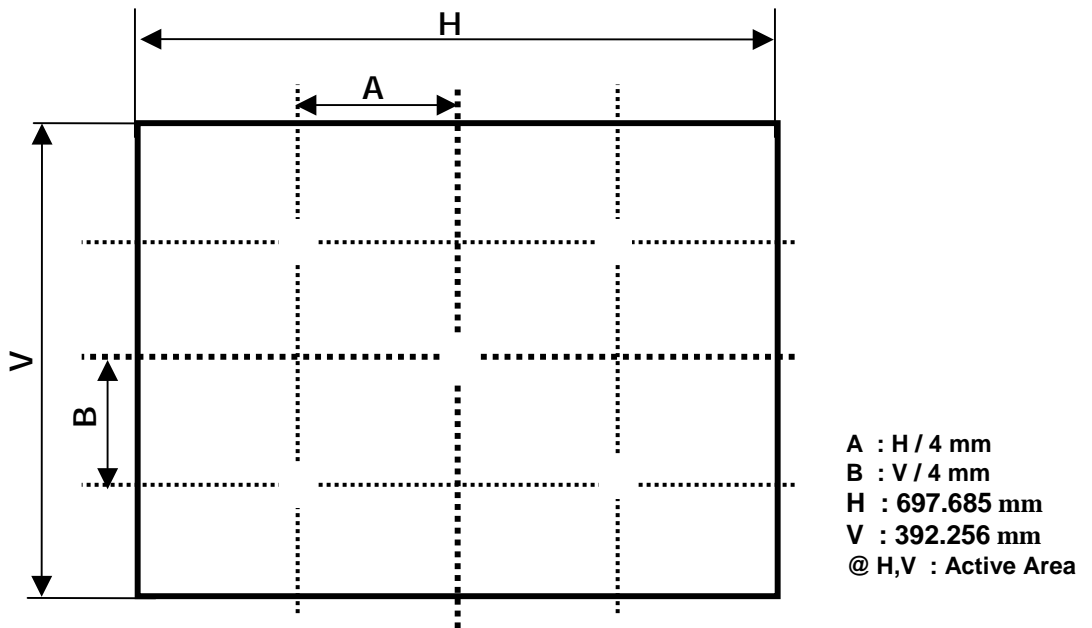

FIG. 2 The Position of Points for Luminance Measure
2. Surface Luminance(L_{WH}) is the luminance value at center 1-point across the LCD surface 50cm from the surface with all pixels displaying white. For more information see the FIG. 2.
For more information, see the FIG. 2.